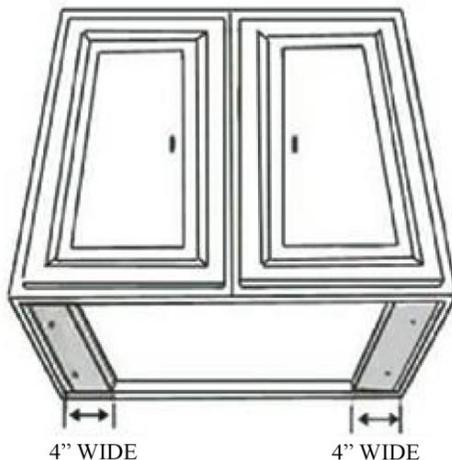

Figure 1
- For installing under cabinets with a recessed bottom, attach 4-inch wide wood filler strips (not provided) on each side. Refer to figure 1.